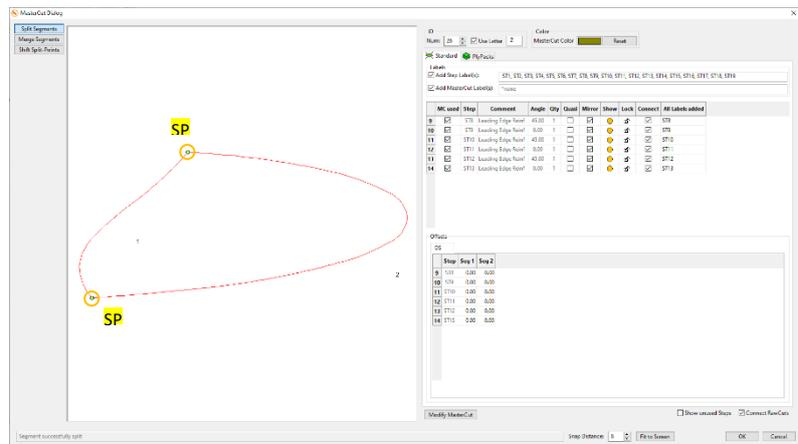

Figure 291
- 87. Next pick both corners (Figure 291). Click **OK** to confirm and leave the MasterCut Dialog.